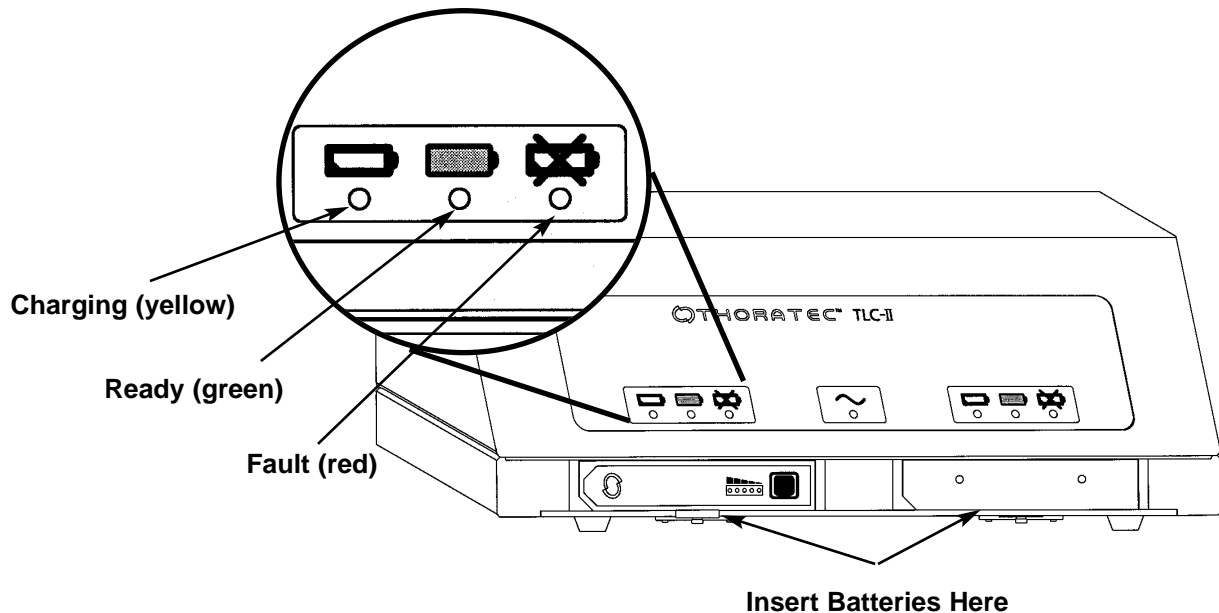

Figure 4.26 TLC-II System Battery Charger and Indicator Lights
4.9.1 Insert one or two depleted batteries into a Thoratec TLC-II Battery Charger. There is one battery charger on the TLC-II Docking Station and additional battery chargers can be used at other locations (**Figure 4.26**).